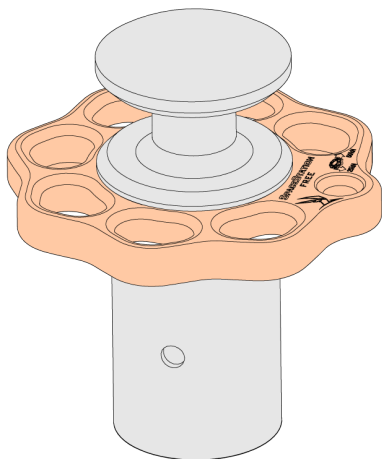
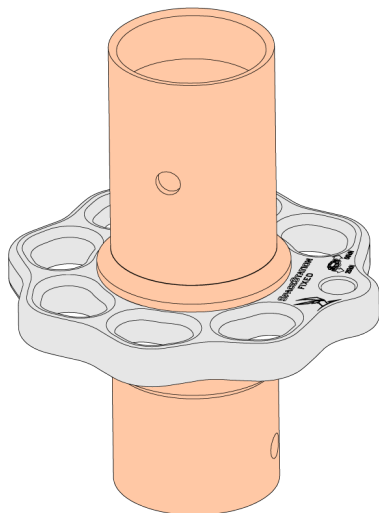
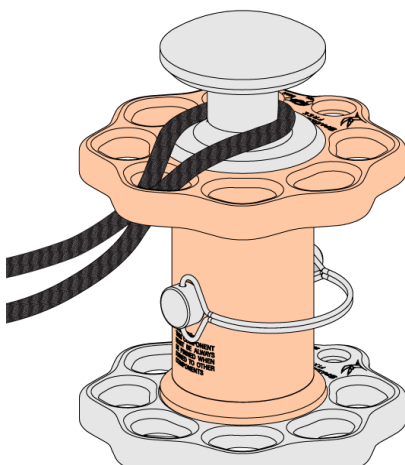
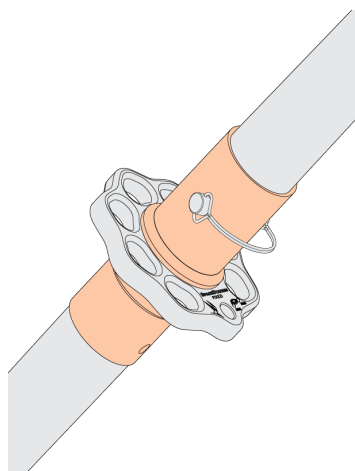

FIG. 1 : FREE MODULE
FIG. 2: FIXED MODULE
FIG. 3: ROPE BIGHT OVER HORN
FIG. 8: ATTACHMENT TO GREY PERF TUBE
The modules are color-coded to indicate which TerrAdaptor tubes they are compatible with: the Free module has a gray tube which can be connected to orange Mid-tubes [Fig. 1] and the Fixed module has an orange tube which can be connected to a gray Perf-tube [Fig. 2].
The rope horn and rigging plate have been designed to reduce the number of carabiners needed by looping a bight of webbing, cord or rope through the rigging plate and over the horn [Fig. 3].
**Free Module [Fig. 1]:** Can be attached to the end of an orange Mid-tube to create a head for a monopod or davit arm. The rope horn can be used for direct connections of rigging/guy lines at the head of a monopod [Fig. 3]. The rope horn can also be placed on the bottom of the tube to create a foot with attachment points.
**Fixed Module [Fig.2]:** Can be attached anywhere along a gray Perf-tube [Fig. 8]. Position it on the middle of the tube to create multiple additional anchor points mid-span, or attach it near the end of the tube as a head for a monopod or davit arm.
- The Fixed Module [Fig. 1] rigging plate [grey] spins or moves
- The Free Module [Fig. 2] rigging plate [orange] does NOT rotate easily